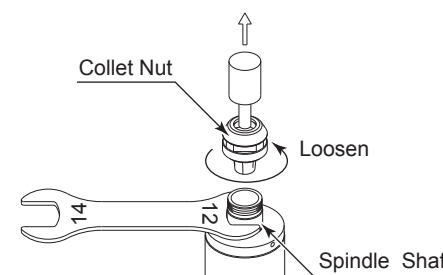

Fig. 4
- Remove the tool according to the section " 8. CHANGING THE TOOL " procedure above and remove collet nut assembly (Fig. 4).